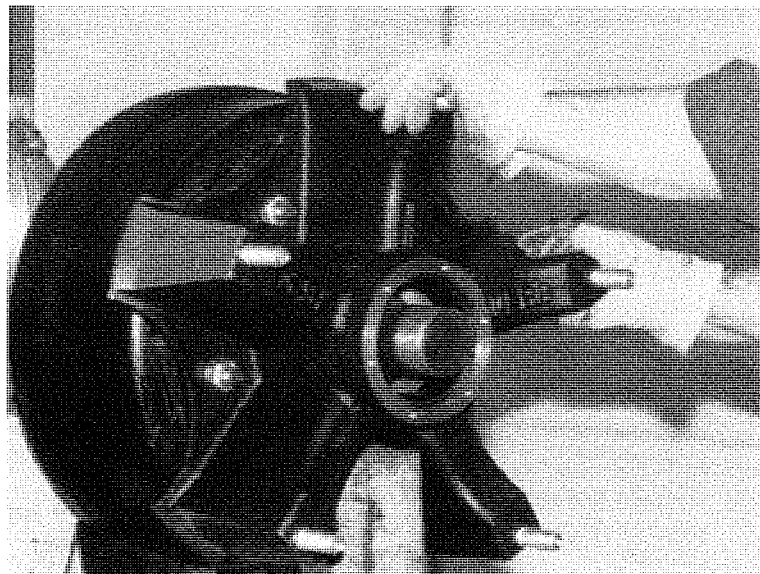

Figure III-3: Installation of spoke wheel assembly onto the axle.
- i. Place the wheel over the axle spindle, being careful to align the wheel bore with the axle, as shown in Figure III-3. Use caution to make sure the seal is not damaged. Be sure to support the wheel assembly until the outer bearing cone and spindle nut are installed (section j below). Failure to do so may cause damage to the seal, and may significantly reduce the product's life.